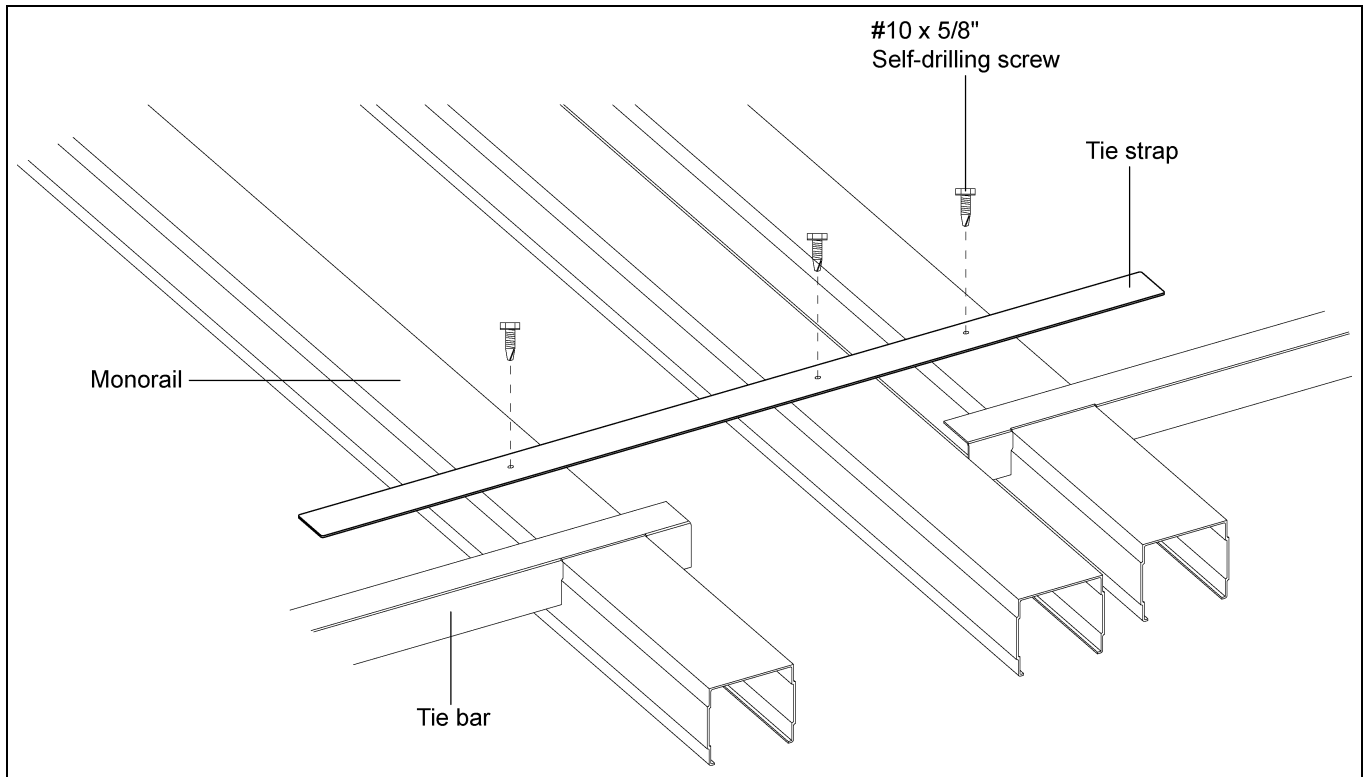

Figure 4D Strap Detail
1. Tie straps should be used when a tie bar cannot be used to connect rails together due to special spacing of monorail. Tie strap should be connected to all three (3) rails using self-drilling screws. (See Figure 4D.)